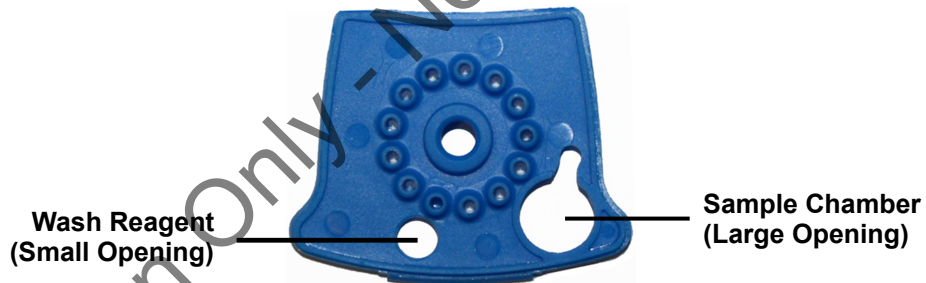

Figure 1. Xpert BCR-ABL Ultra p190 Cartridge (Top View)
3. Lift the cartridge lid and transfer the entire contents of the Wash Reagent (1) ampoule to the Wash Reagent Chamber (small opening). See Figure 1.
4. Pipette the entire contents of the prepared sample into the Sample Chamber (large opening). See Figure 1.